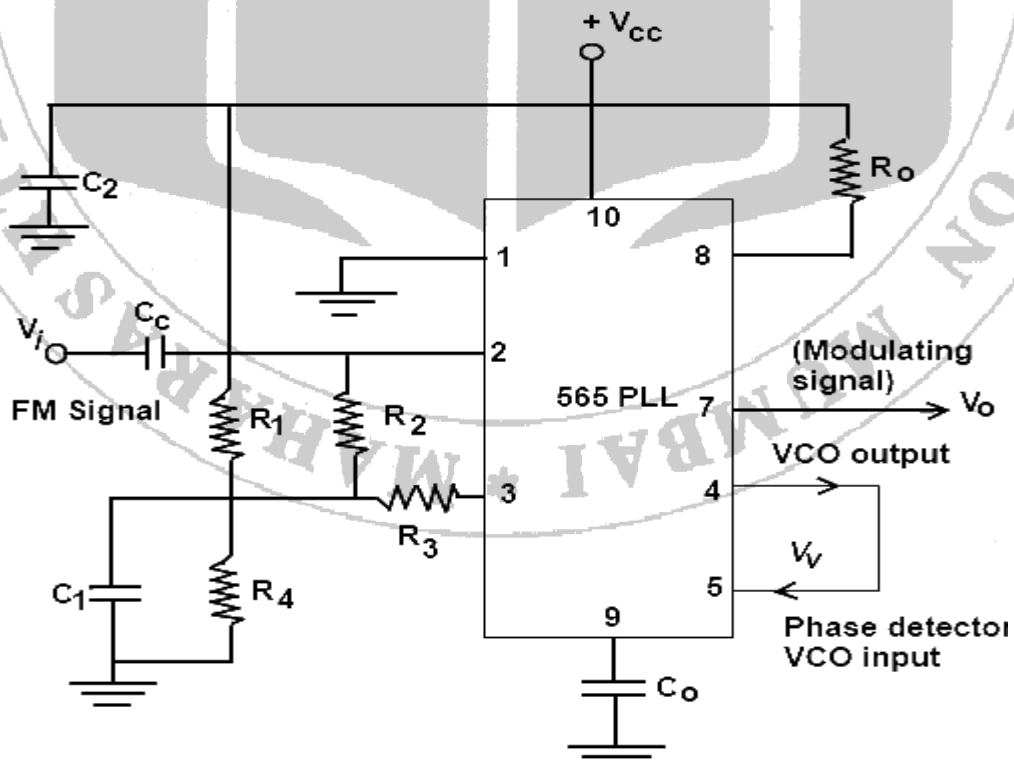

Fig. 28.2: Circuit Diagram of FM demodulator
1. Implement the circuit of figure 28.2 and disconnect pins 4 and 5 of the PLL (short-circuited with a wire). Observe the free-running frequency of the VCO in pin 4. Modify the potentiometer resistance (R0) to make this frequency about 1 kHz or slightly superior.